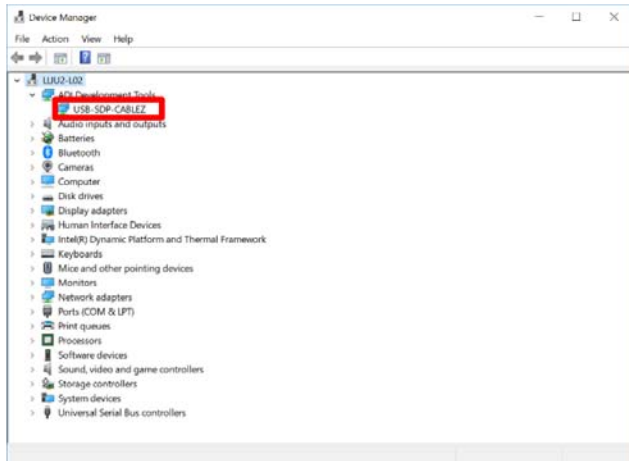

Figure 9. Verify Driver Installation
- To verify that the USB driver is installed properly, click the **Start** menu. Select **Control Panel > System** and open the **Device Manager** window shown in Figure 9 to check if **USB-SDP-CABLEZ** appears in the list.